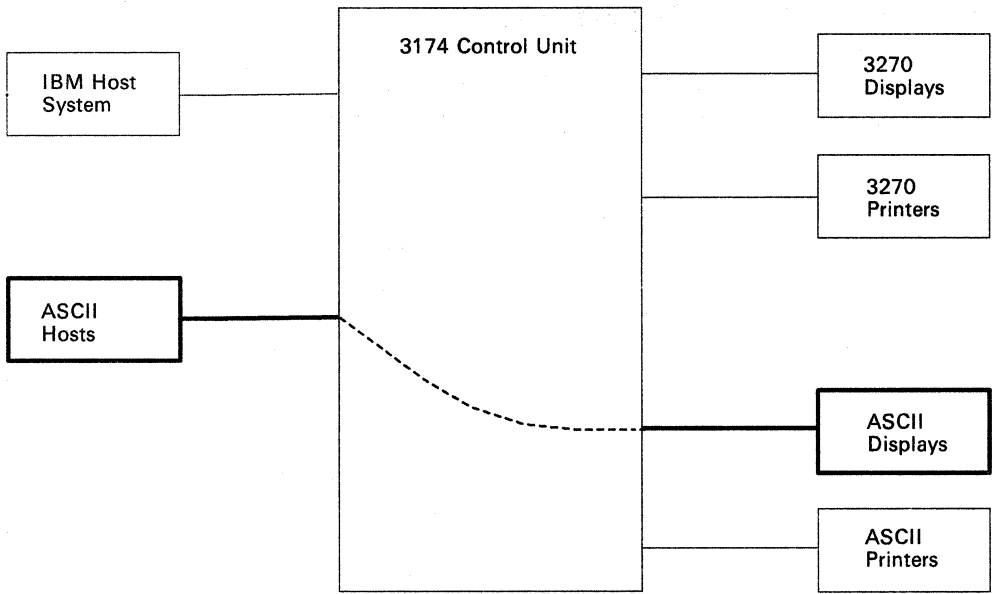

Figure B-5. ASCII Terminal Communicating with an ASCII Host
- ASCII displays and/or printers to ASCII hosts (see Figure B-5 on page B-10).